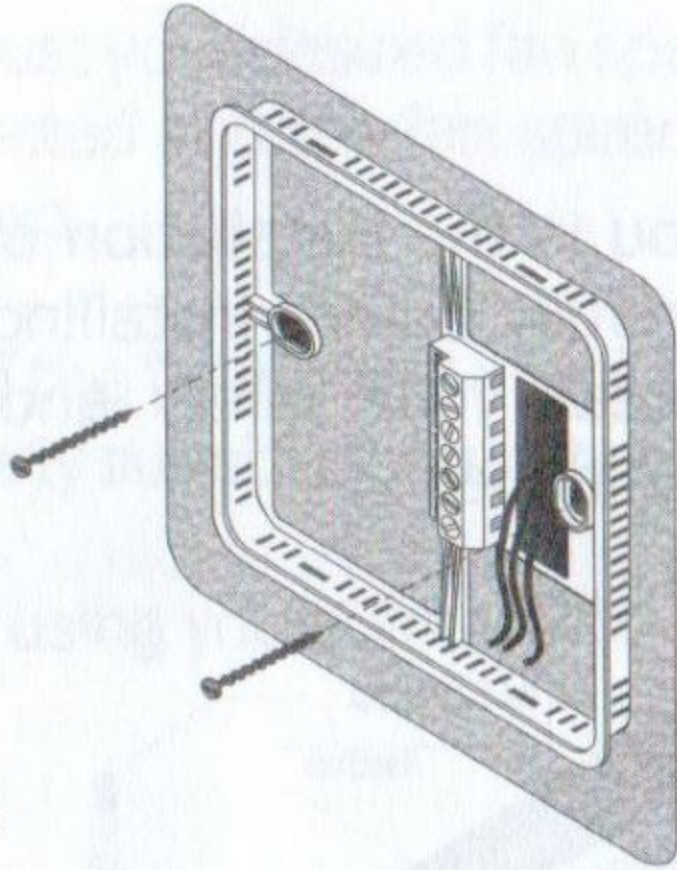

Fig. 3
④ Position the mounting plate on the wall. Use a pencil to mark the mounting holes. Remove the plate from the wall and drill  $3/16''$  holes in the wall. Tap anchors into the drilled holes. Reposition the plate and loosely insert two mounting screws in the holes. Level the plate for appearance. Tighten the mounting screws. (Fig. 3)